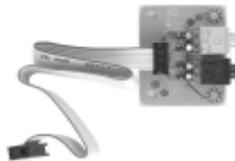

Figure 1-4 AC3 Surround/Center + Bass
- AC3 Surround/Center + Bass jack extension. (Figure 1-4)